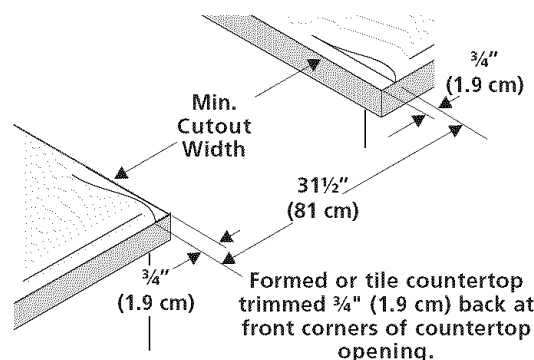

Figure 7
- **Formed front-edged countertops** must have molded edge shaved flat  $\frac{3}{4}$ " (1.9 cm) from each front corner of opening (Figure 7).
- **Tile countertops** may need trim cut back  $\frac{3}{4}$ " (1.9 cm) from each front corner and/or rounded edge flattened (Figure 7).